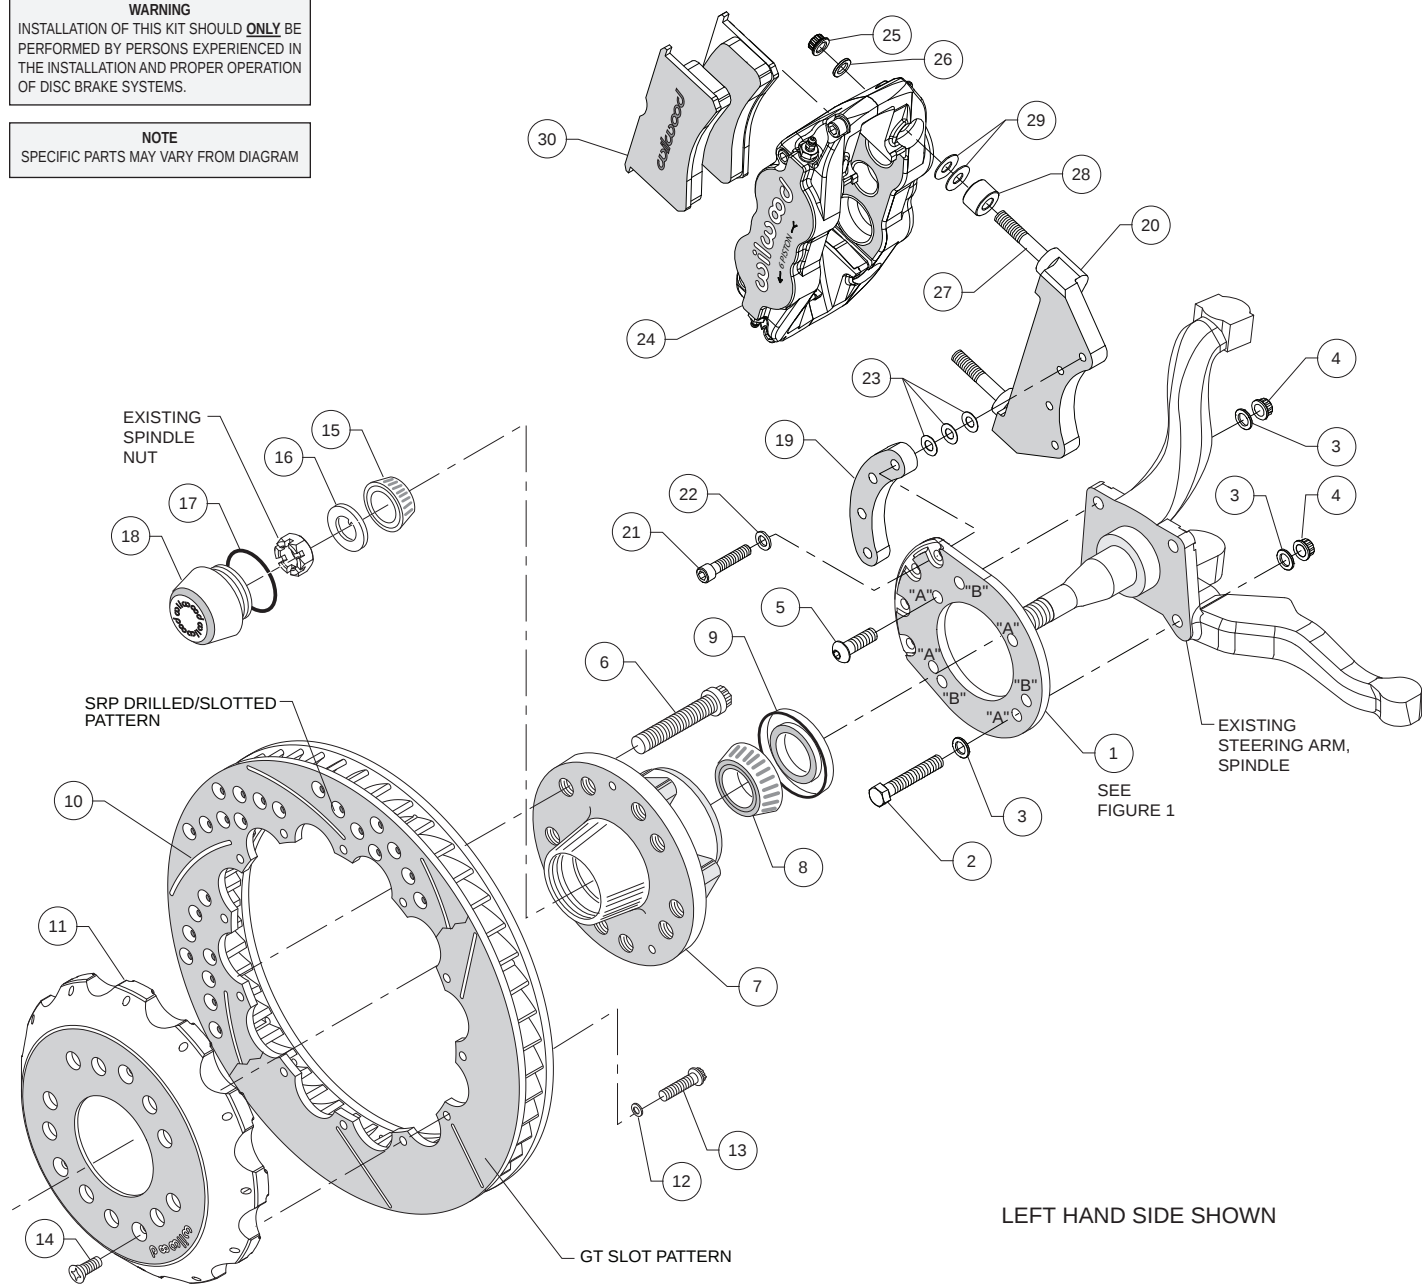

Figure 2. Typical Installation Configuration
**Assembly Instructions** (numbers in parenthesis refer to the parts list and Figure 2 on the preceding pages):
•Align bracket, using the four "A" holes, to the face of the spindle and attach using bolts (2 and 5), washers (3), and lock nuts (4), as shown in Figure 2 and Photo 1. Temporarily tighten the mounting bolts. **NOTE:** The bracket must fit squarely against the mounting points on the spindle. Inspect for interference from casting irregularities, machining ridges, burrs, etc. Torque lock nuts (4) to 25 ft-lb.
•Install wheel studs (6) into the hub (7), Photo 2. Torque to 77 ft-lb. **NOTE:** There are two five lug patterns in the hub (5 x 4.50 and 5 x 4.75). Ensure the correct hub stud pattern is being used to fit the wheel application.
•Pack the large inner bearing cone (8) with high temperature disc brake bearing grease (available from your local auto parts store) and install into the backside of the hub (7), Photo 3.
•Install the grease seal (9) by pressing into the backside of the hub (7), flush with the end of the hub, Photo 3.
•Pack the small outer bearing cone (15) with high temperature disc brake bearing grease and install into hub (7). Slide the hub assembly onto the spindle. Secure using spindle washer (16) and OEM spindle nut, Photo 4. Adjust bearings per OEM specifications. Install saved OEM nut lock (if any) and a new cotter pin (not included).
•Screw dust cap (18) into hub (7), Photo 5. Friction created by the o-ring (17) on the dust cap keeps it from unscrewing. **NOTE:** The O.D. of the existing OEM spindle washer may be larger than the I.D. of the dust cap not allowing it to seat against the hub face. Therefore, use the spindle washer (16) supplied with the kit instead of the OEM washer.
•Orient the rotor (10) and the hat (11) as shown in Figure 2 and Photo 6. Attach rotor to hat using bolts (13) and washers (12). Using an alternating sequence, apply red Loctite® 271 to the
- Slide the hat/rotor assembly (10/11) onto the hub (7) taking care to align the small countersunk holes in the hat with the small threaded holes in the hub (7). **NOTE:** The hat must fit flush against the hub face or excessive rotor run out may result. Install three flat head screws (14) through the small holes in the hat, Photo 5, and torque to 85 in-lb.
- Attach the caliper mounting bracket (20) to the spindle bracket (1) using bolts (21), washers (22), and spacer (19) as shown in Figure 2 and Photo 7. Initially place three .015" thick shims (23) on each bolt between the spacer and the caliper bracket. Temporarily tighten the mounting bolts. Later, after the caliper alignment has been checked, the mount bolts will be secured using red Loctite® 271.
- **NOTE:** This kit contains distinct right and left hand calipers that must be mounted in a specific direction, as described below. Lubricate the caliper mounting studs (27) with lightweight oil. Initially place two .035" thick shims (29) and spacer (28) on each stud between the caliper and the bracket, as shown in Figure 2 and Photo 8. Mount the caliper (24) onto the bracket (20) using lock nuts (25) and washers (26), Figure 2. Ensure that the caliper is mounted so the largest pistons are at the rotor exit end of the caliper, in relation to the direction of rotor rotation. Temporarily tighten the lock nuts and view the rotor through the top opening of the caliper. The rotor should be centered in the caliper, Photo 9. If not, adjust by adding or subtracting shims (23) between the caliper bracket (20) and the spacer (19). Always use the same amount of shims on each of the four mounting bolts. Once the caliper alignment is correct, remove the bracket mounting bolts one at a time, apply red Loctite® 271 to the threads, and torque to 25 ft-lb.